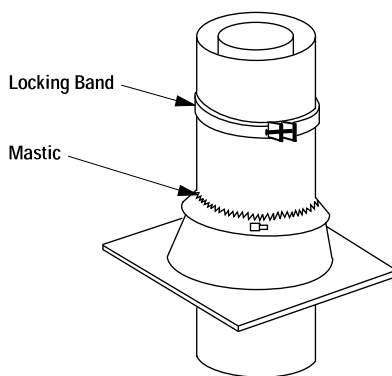

Figure 29
Step 8. The standard FireCraft FTF8 roof flashing assemblies include a storm collar. Slide the storm collar over outer chimney, rest on flashing spacers and align with top surface of flashing. Insert tab in slot, pull tight and bend tab back over slot. Seal storm collar to outer chimney with roof caulking or mastic around entire circumference of pipe. Also add extra roof caulking to the tab/slot area to seal completely against water penetration (*Figure 29*). Check all joints very carefully to ensure no water intrusion can take place.
Step 9. FireCraft locking bands, Model FLB, may be required if the chimney extends too high above the roof flashing. As a general rule, if the chimney extends more than 6' above the roof flashing, the use of locking bands is advisable to strengthen the chimney assembly. Align the locking band at the chimney joint. Locking bands wrap around pipe joints equally covering the joints of both pipe sections. Use the nut provided and TIGHTEN snugly. Do not over-tighten as this might damage the chimney section (*refer to Figure 29*).